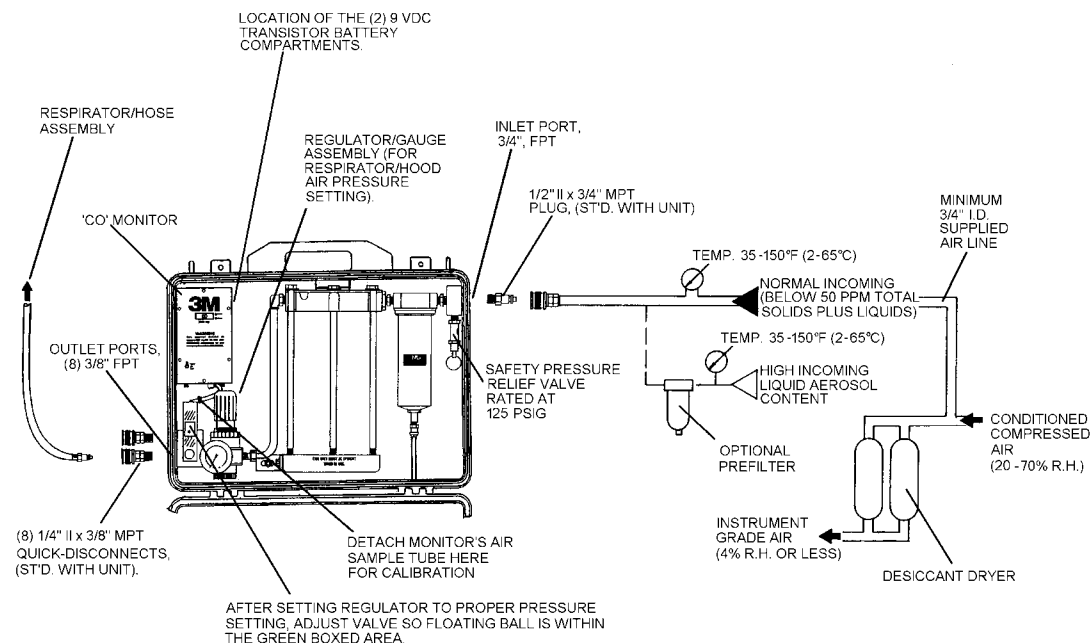

Fig. 4
The 3M filter and regulator panel, when used in accordance with the following instructions, will remove or reduce selected contaminants from compressed air lines. (Fig. 4)
The filter and regulator panel must be installed a minimum of 25 feet away from the compressor. The actual distance required from the compressor shall be determined by the temperature of the air. The air supply temperature at the filter should be 35-150°F (2-65°C) for maximum efficiency. Conditioning equipment may be necessary, prior to the filter, to achieve this temperature range. (Fig. 4)
The following instructions are intended to serve as a guideline for the use of the 3M™ Portable Compressed Air Filter and Regulator Panel 256-02-01, with CO Monitor. It is not to be considered all-inclusive, nor is it intended to replace the policy and procedures for each facility. (Fig. 4 and 5)
**NOTE:** If excessive oil/water is present, install a separate coalescing prefilter prior to the system inlet. (Fig. 4)